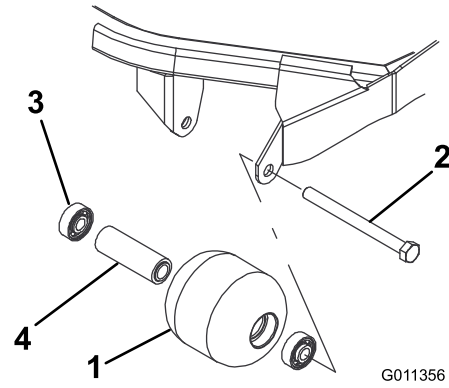

Figure 62
4. Inspect the roller housing, bearings, and bearing spacer for damage (Figure 62). Replace damaged components and assemble.
1. Remove the roller mounting bolt (Figure 62).
1. Press the first bearing into the roller housing (Figure 62). Press on the outer race only or equally on the inner and outer race.
2. Insert the spacer (Figure 62).
3. Press the second bearing into the roller housing (Figure 62). Pressing equally on the inner and outer race until the inner race comes in contact with the spacer.